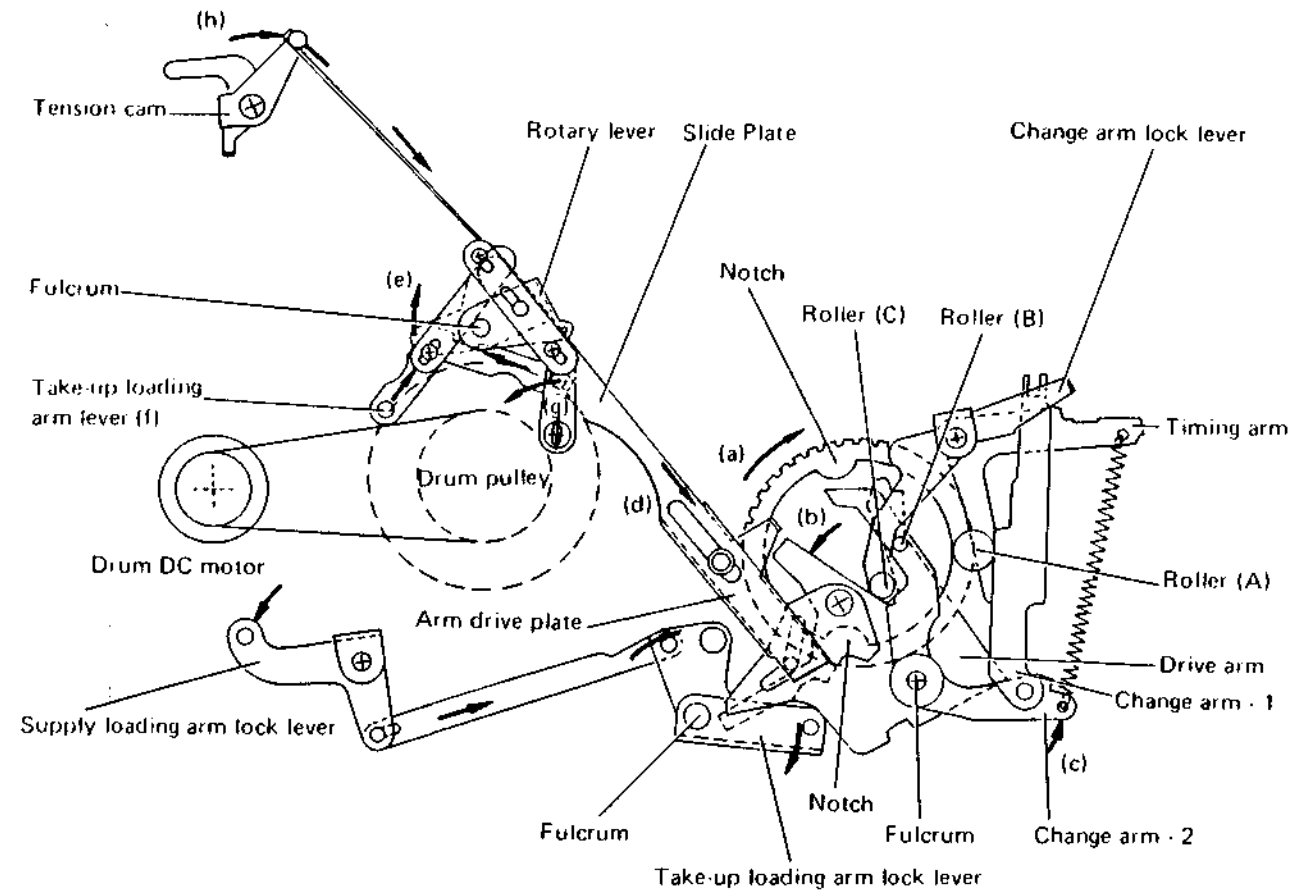

Fig. 2-9 Loading-2 mechanism (Bottom view)
Refer to Fig. 2-9, Loading-2 mechanism (Bottom view). Corresponding to the clockwise rotation (a) of the timing gear, the roller (C) fixed on the timing gear also makes clockwise rotation.